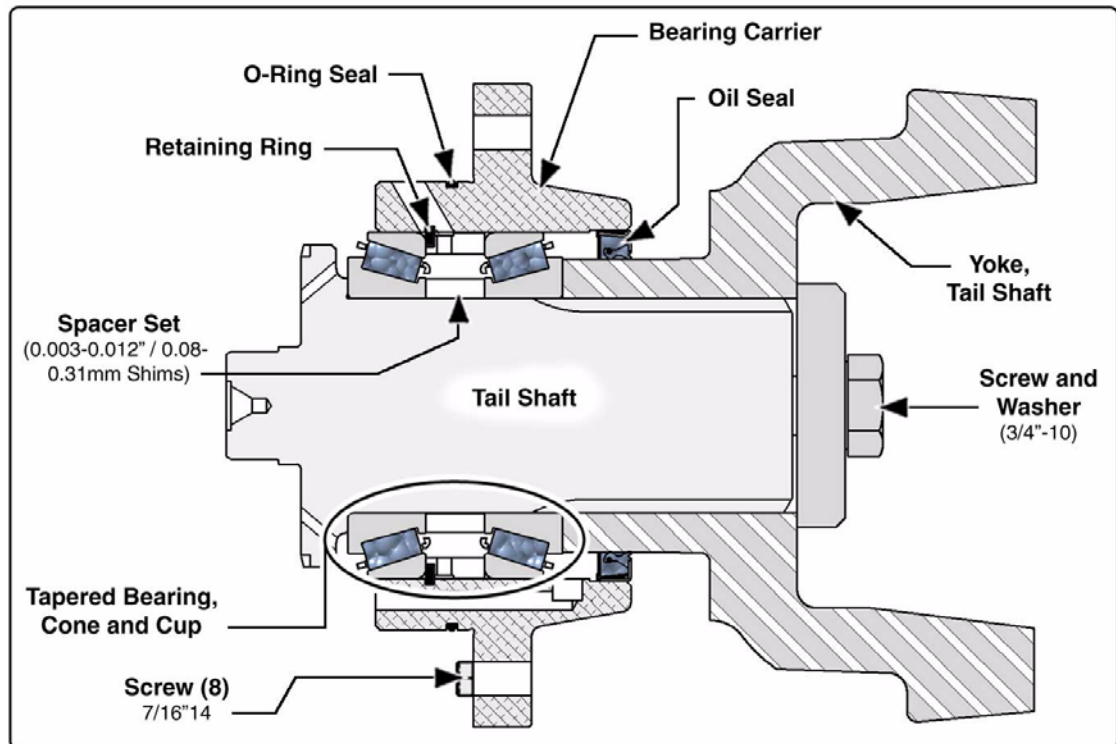

Figure 9-7: Tail Shaft Assembly
See Figure 9-7, “Tail Shaft Assembly,” on page 162
3. To the tail shaft, press on the roller bearing inner race (see Figure 9-7: above).